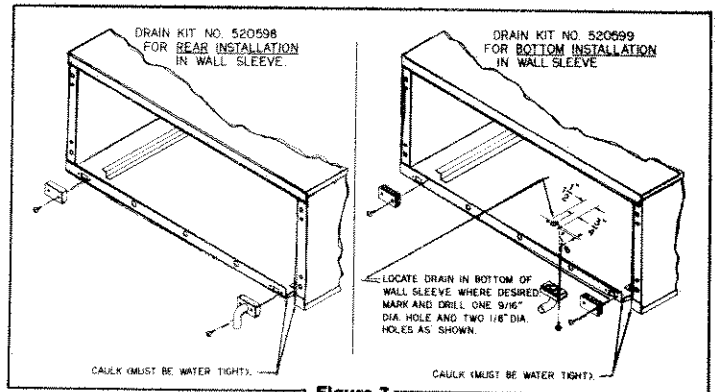

Figure 7
b. Drain Kits - A condensate drain kit is recommended for positive drainage when specified or code requires or when condensate is heavy under conditions of extreme humidity for extended periods of time. Two drain kits are available. Drain Kit #520598 may be installed externally on rear of wall sleeve either at right or left corner. Drain Kit #520599, mounts underneath sleeve. Drain kits are illustrated in Figure 7. The condensate can be freely drained to ground level or routed in tubing to a disposable location. Drain tube kits are designed for 1/2" O.D. copper tubing.